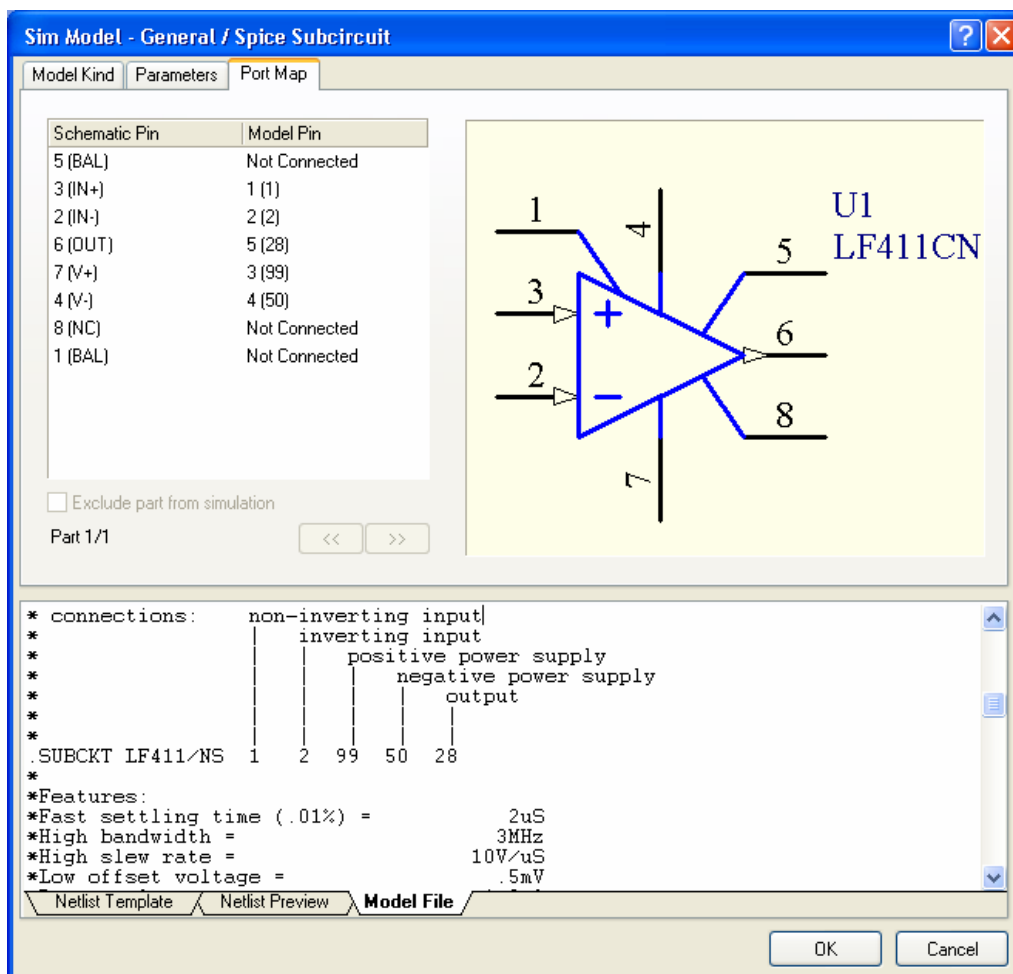

Figure 2. Port Map information for sub-circuit simulation model
17. Modify the Model Pin mapping by selecting the matching pins from the Model Pin drop-down lists, as shown in Figure 2. Close the dialogs when finished.